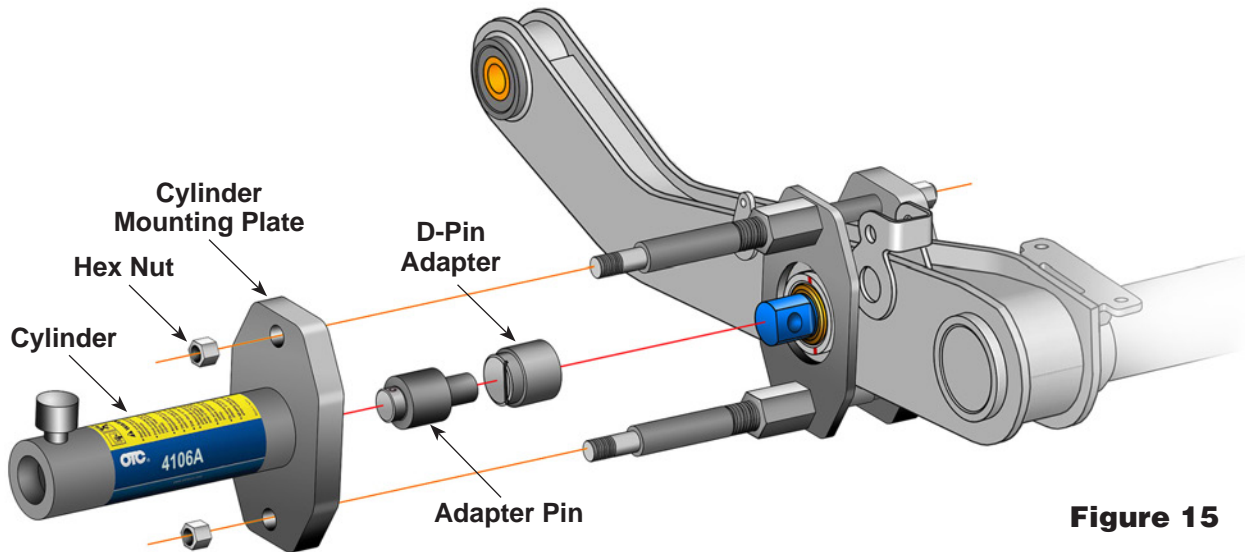

Figure 15
8. Thread the cylinder into the *cylinder mounting plate*. See Figure 15.